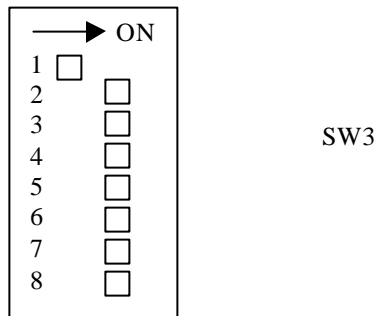

Figure 3
- Place SW3.1 to “off” position (Figure 3)